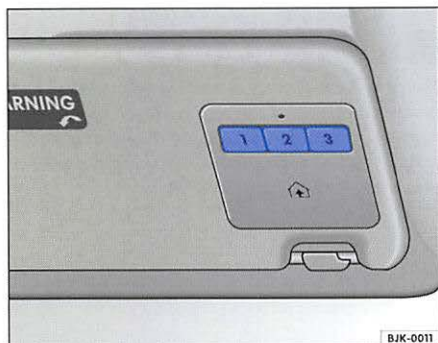

Fig. 23 Home link buttons in driver's sun visor
Buttons ⇒ **fig. 23** ①, ② and ③ in the driver's sun visor can be used to program the settings of remote controls, for example for a home safety alarm or an automatic garage door opener.